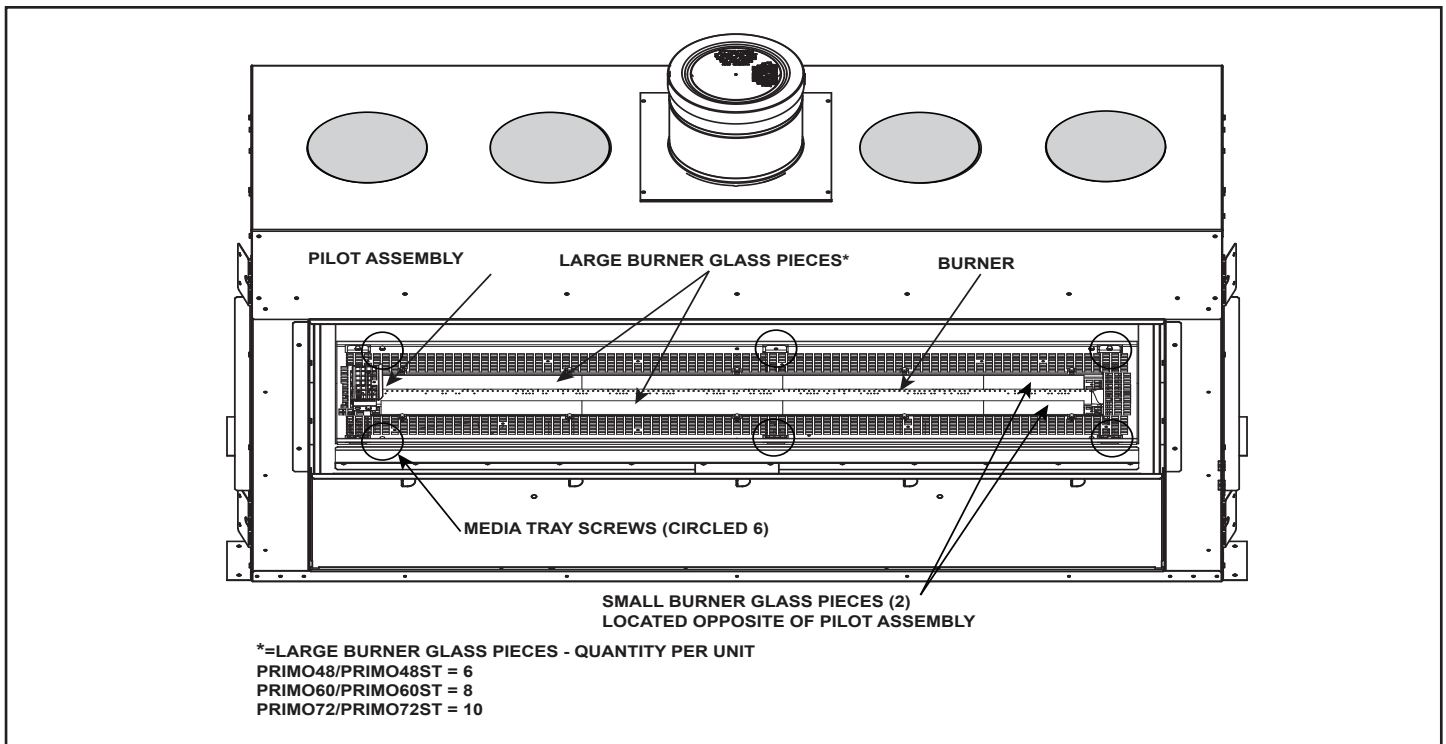

Figure 9.3 Base Pan with Burner, Pilot Cover and Burner Glass
9. Remove the burner glass. See Figure 9.3.
10. Remove the media tray. It is attached to the interior firebox bottom with screws. See Figure 9.3.